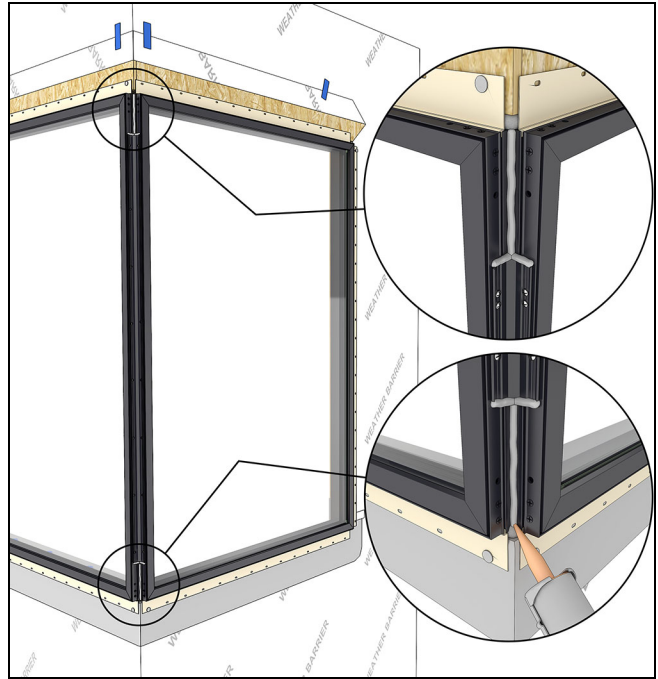

Figure 53
15. Place a bead of sealant along the top and bottom corner of the bracket and down the center of the mull. See Figure 53.